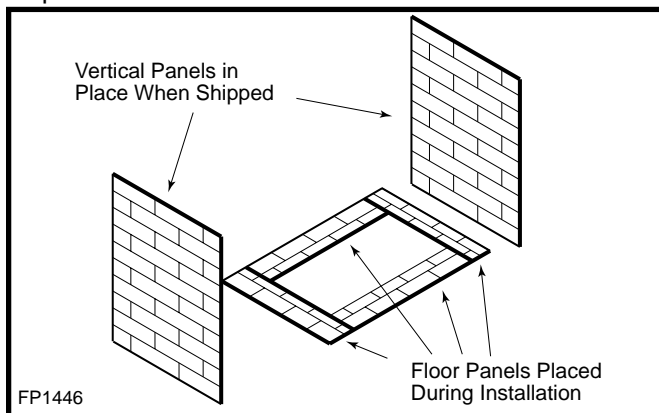

Fig. 39 Ceramic panel installation.
The vertical refractory panels are installed in the unit prior to shipment. For assembly procedures, refer to Figure 39.
NOTE: 360DVS2 is the only 360DV unit that is fitted with two (2) end vertical panels, as shown in Figure 39. 360DVSL and 360DVSR units are each fitted with one end vertical panel and two side vertical panel. The 360DVS3 has only one end vertical panel.